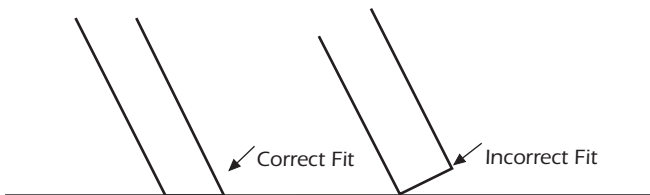

Fig. 8
Step 11- Draw a straight line between the points. Cut each bottom stringer to the proper length, along the lines drawn. The bottom section of the stairs should fit flush with the floor on both sides after cutting. (See Fig. 8)